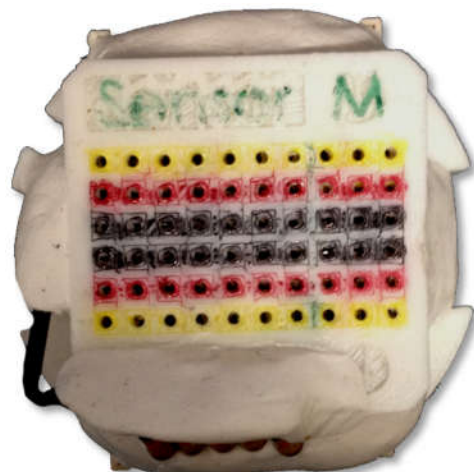

Figure 26: Finished breadboard hub
11. Cover and protect all connections using Sugru or similar methods. See finished breadboard hub in Figure 26.